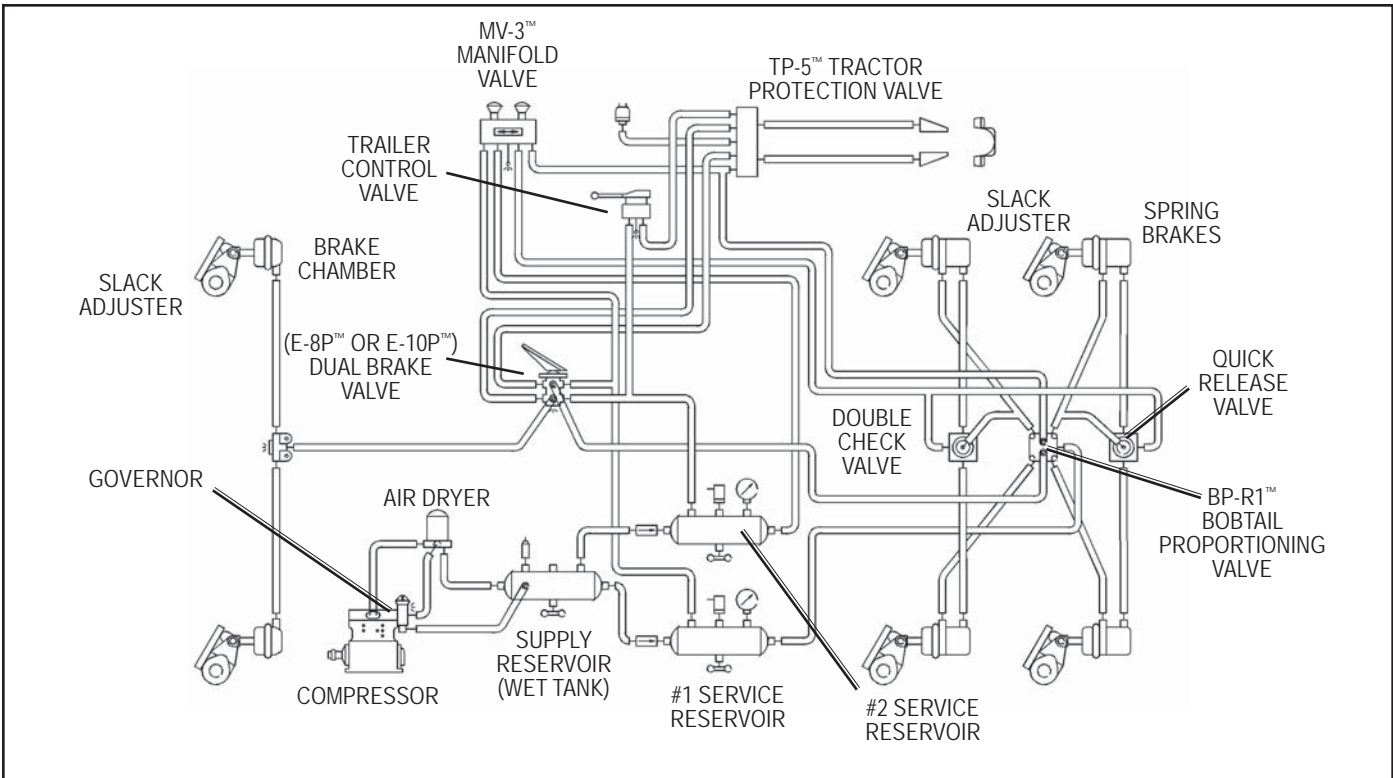

FIGURE 3 - TYPICAL PIPING SCHEMATIC
OPERATION - Refer to Figure 3
2. Remove the screw (9) securing the exhaust diaphragm (10) and washer (11) to the exhaust cover (12).
3. Remove the four screws that secure the exhaust cover (12) to the lower body.
4. Remove the secondary inlet and exhaust valve assembly (13) from the lower body.
6. Remove the rubber seal ring (14) from the lower body.
7. **For E-8P™ valve only:** While applying thumb pressure to the primary piston (22), lift out and up on the three lock tabs of the primary piston retainer (15).
8. **For E-10P™ valve only:** While depressing spring seat (7), remove retaining ring (8). Remove spring seat (7) and coil spring (5).
Caution: Before proceeding with the disassembly, refer to Figures 3 and 4 and note that the lock nut (16) and stem (17) are used to contain the primary piston return spring (**for E-8P™ valve:** 23, **for E-10P™ valve:** 6), stem spring (19), and the relay piston spring (21). The combined force of these springs is approximately 50 pounds and care must be taken when removing the lock nut as the spring forces will be released. It is recommended that the primary piston and relay piston be manually or mechanically contained while the nut and stem are being removed.
9. Using a 3/8" wrench, hold the lock nut (16) on the threaded end of the stem (17). Insert a screwdriver to restrain the stem, remove the lock nut (16), spring seat, (18) and stem spring (19).
10. **For E-10P™ valve only:** Remove adapter (1) and o-ring (4). Remove the primary piston (2) from adapter (1) and o-ring (34) from the primary piston (2).